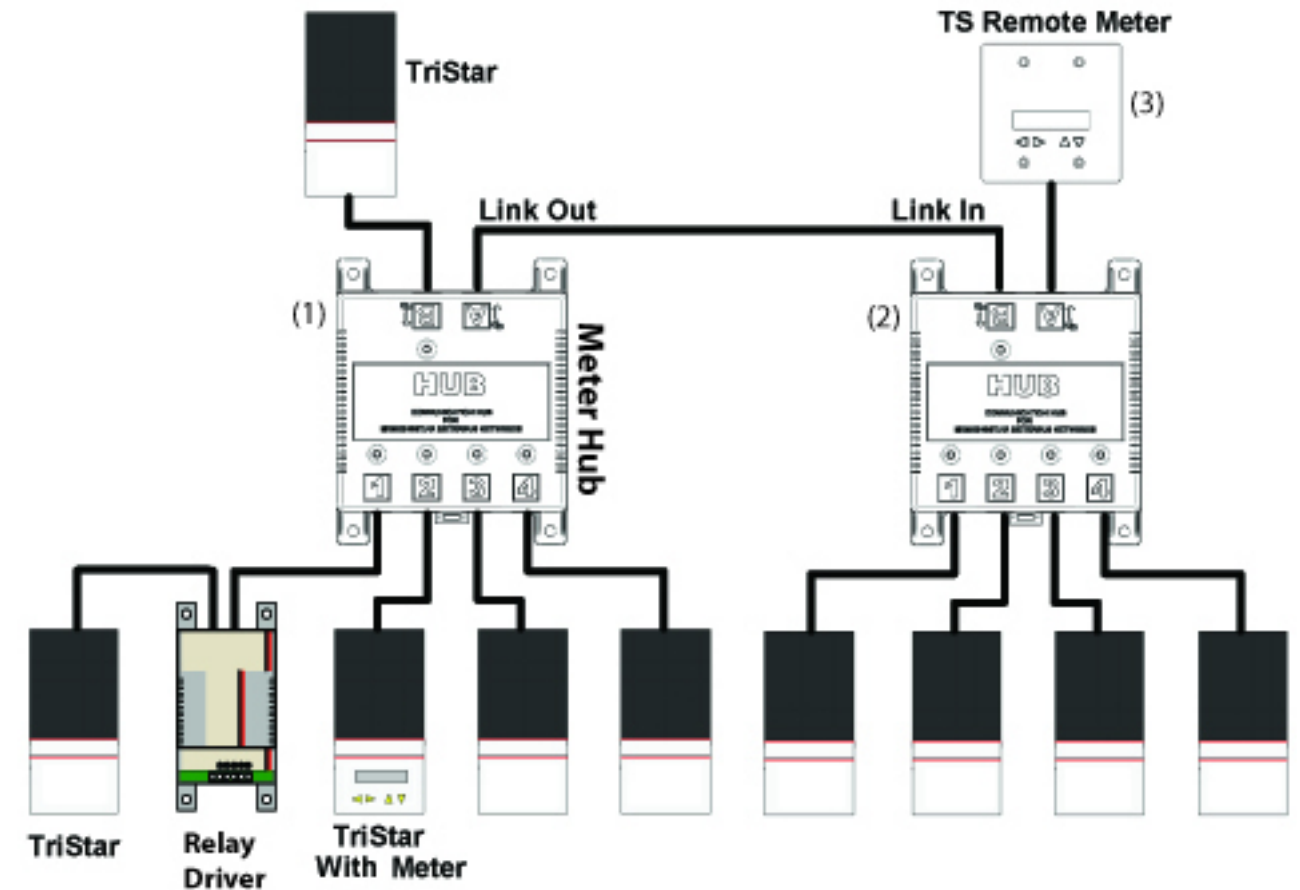

Figure 22. Morningstar MeterBus™ Large, Multiple Hub Network Diagram 1
- A maximum of three devices can be powered off a single device from Column A. The Multiple-Hub diagram in Figure 22 illustrates this.
- To supply power to a device from Column B, you must connect a device from Column A to the device from Column B, and then connect that device (B) to a port on the Meter Hub. Example Network #2 shows how to correctly achieve this.
Figure 22 illustrates a large MeterBus™ network making use of multiple Meter Hubs. The two hubs are linked using the *Link Out / Link In* Ports A & B, respectively. Each hub expands the number of MeterBus™ connections to the network. Notice that the TriStar powering the hubs can only accommodate a maximum of three (labeled 1-3 in the diagram below). **Remember:** A maximum of four Hubs may be linked on one MeterBus™ network, accommodating up to 15 MeterBus™ devices. Regardless of how many Hubs are used, all networking rules concerning power management still apply.